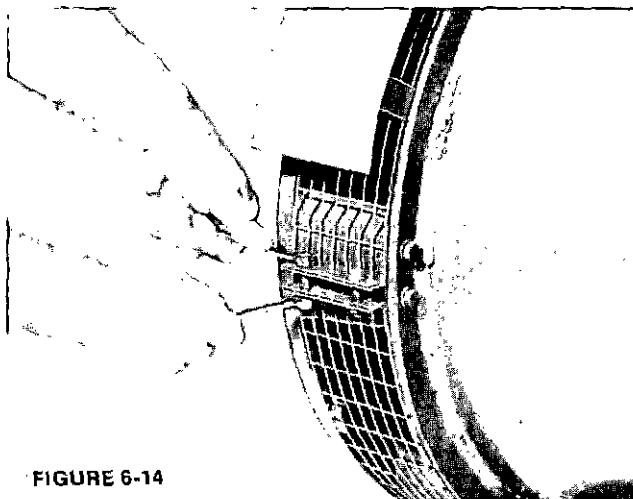

FIGURE 6-14
2. If the screen assembly is still mounted, remove the bolts securing the screen assembly to the drive end bracket or the SAE adapter and remove the screen assembly. (Figure 6-14.) (NOTE: Do not remove the drip cover from the screen assembly if so equipped.)